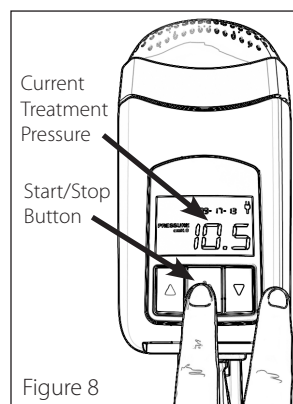

Figure 8
1. Press the **Start/Stop Button** on the **Z2** to initiate treatment using the pre-programmed prescription setting. The Treatment Pressure Display will show the actual pressure being delivered at all times. If the Ramp Mode has been programmed, the ramp start pressure will be displayed upon pressing the **Start/Stop Button** and the indicated pressure will rise as the **Z2** ramps up to prescribed treatment pressure. If the incorrect pressure is displayed, contact your health care provider before commencing CPAP therapy. (Figure 8)